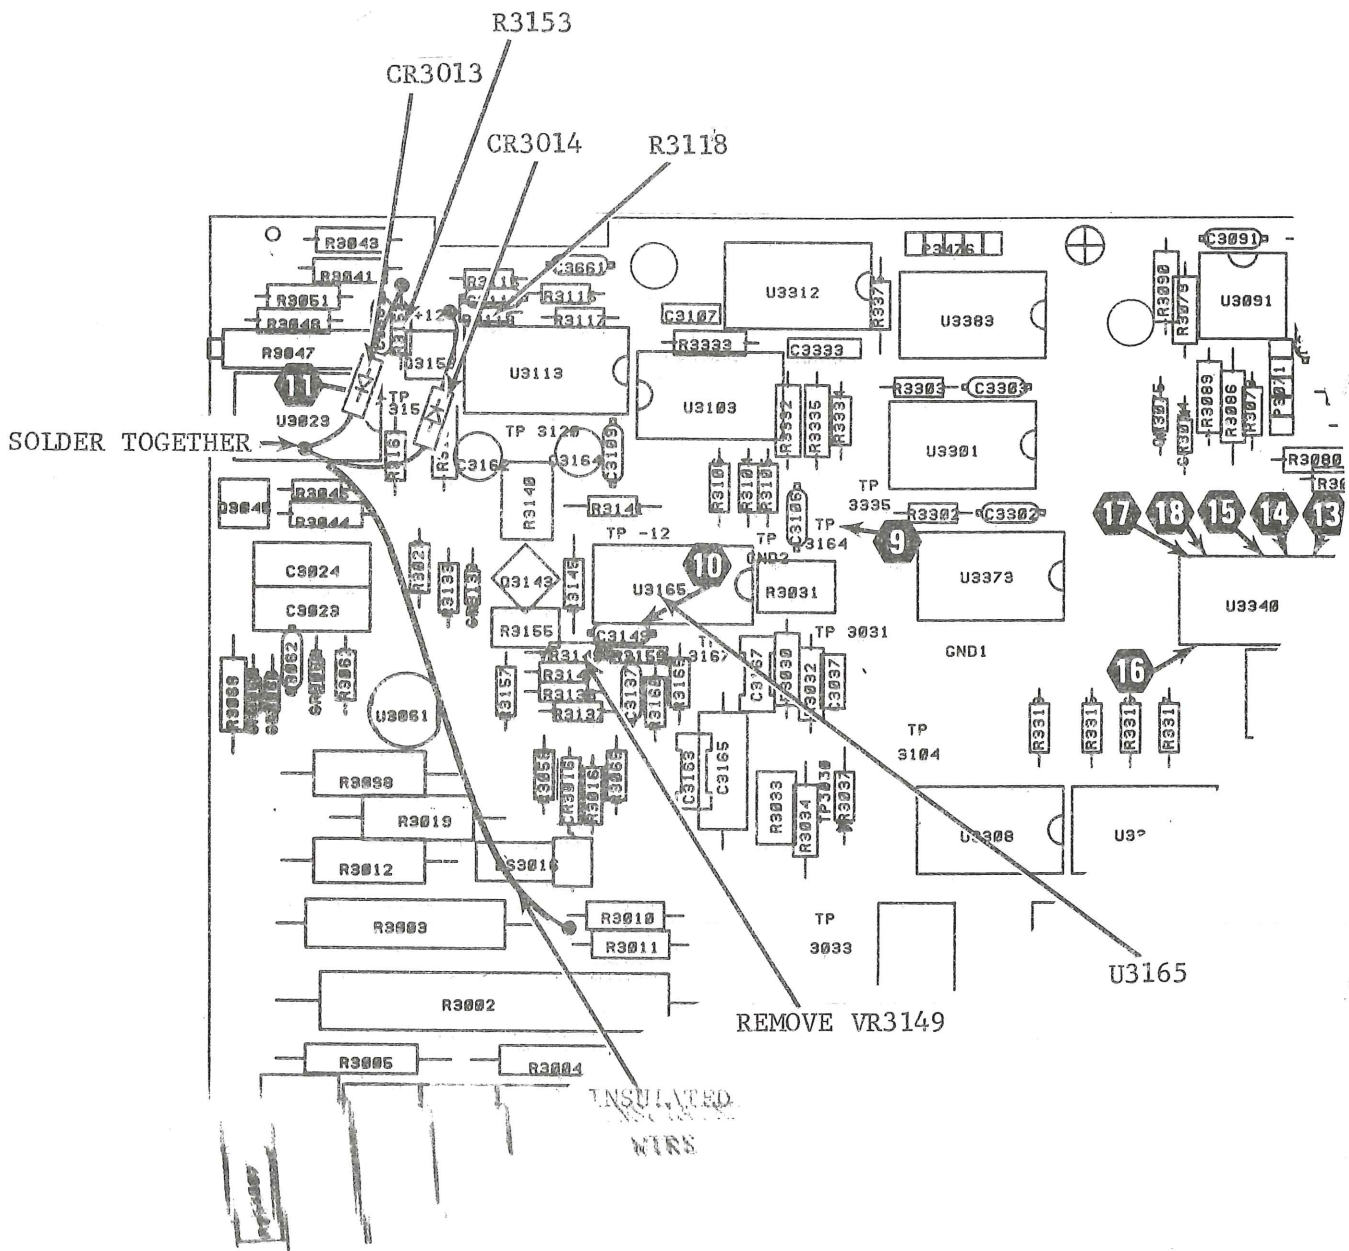

Figure 1. (DM44) Partial Main circuit board (A1) showing locations of added and removed parts.
Refer to Figure 1 and 2 for locations of components mentioned in the following procedure.
- ( ) 5. DM44 only. Solder the anode lead of CR3013 (from the kit) to R3153 (-12V) and the cathode lead of CR3014 (from the kit) to R3118 (+12V). Refer to Figure 1.